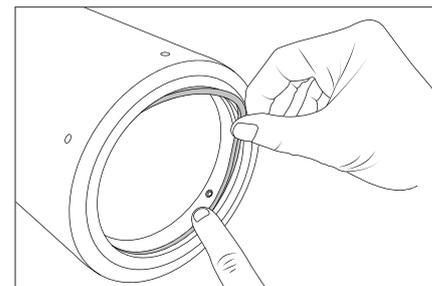

Figure 2
4. Attach the INOflex® seal at the lowest point in the groove with one hand and, at the same time press the seal further into the course of the groove with the other hand. (Figure 2)